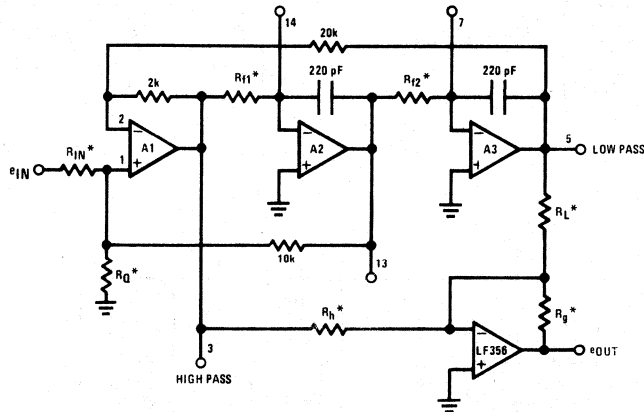

FIGURE 14. Notch Filter Using an External Amplifier
e) Notch filter (Figure 14) transfer function equations are: